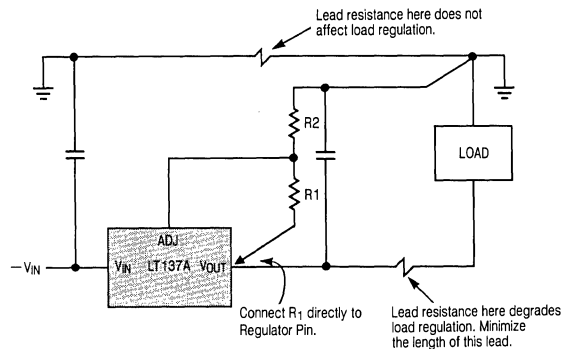

Figure 3
**Proper Connection of Divider Resistors:** The LT137A has an excellent load regulation specification of 0.5% and is measured at a point  $1/8''$  from the bottom of the package. To prevent degradation of load regulation, the resistors which set output voltage,  $R_1$  and  $R_2$ , must be connected as shown in Figure 3. Note that the positive side of the load has a true force and sense (Kelvin) connection, but the negative side of the load does not.